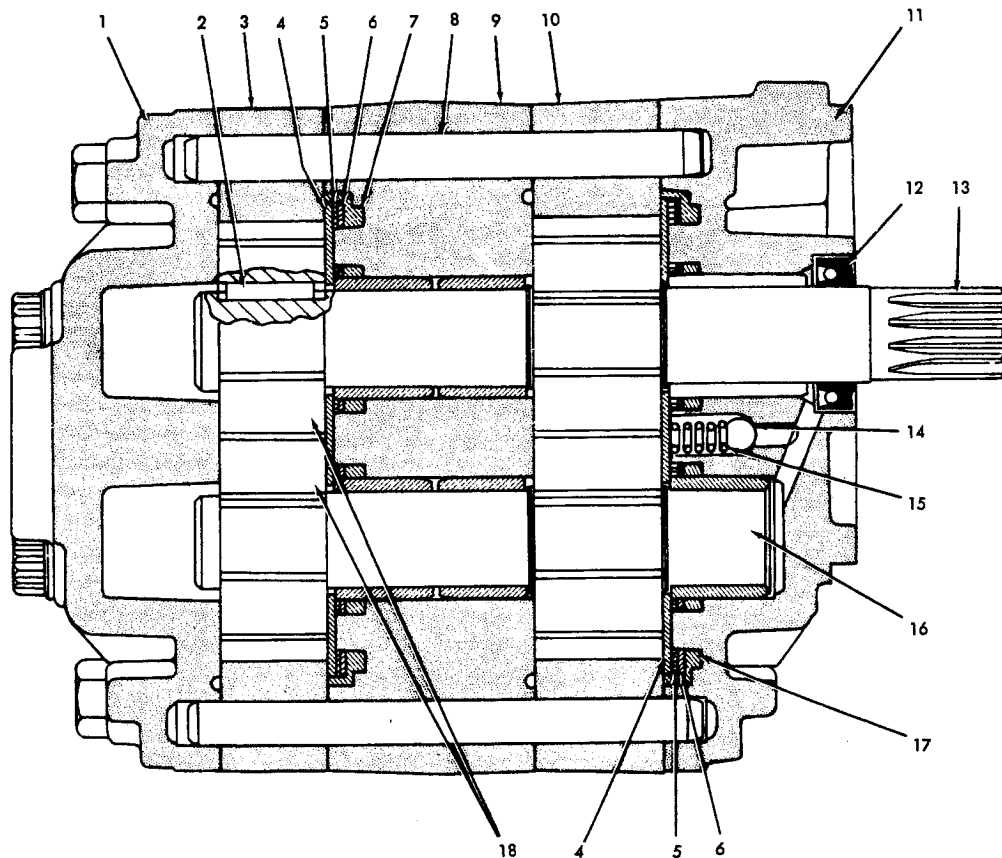

Fig. 9 -- Transmission Oil Pump (HD6EP Eff. S/N 18754 and Up, HD7G Eff. S/N 24276 and Up) (T-72353)
- c. Mark position of pressure pump gears, Fig.9 (18); slide idler gear from shaft and pull drive gear from woodruff key in shaft. Remove woodruff key, center housing (9), and gear housing (10).
- e. Remove diaphragm, Fig. 9 (4), diaphragm gaskets (5) (6), and diaphragm seal (7) or (17) from center housing and front plate; remove springs (15) and balls (14) from front plate.